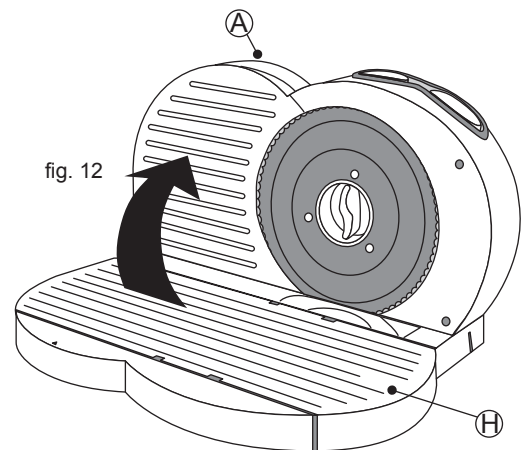

fig. 12
- Remove the Protective Guide (L) and Food Tray (K), Fold up the Platform (H) against the Main Body. Wrap up the Cord (J) and store it under the Food Slicer. The Food Slicer should be stored in a location that is out of reach of children in a clean dry environment.
- See fig. 12.